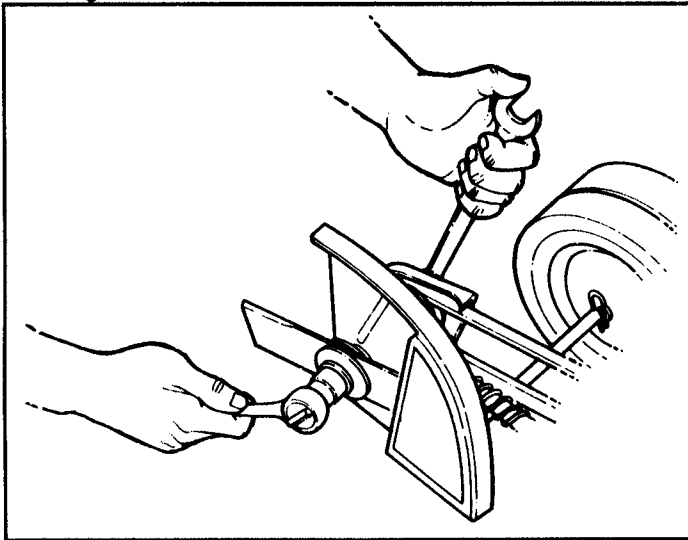

FIGURE 5
1. Remove blade by holding the spindle with a 3/4" boxed end wrench while removing the blade retaining nut with a 3/4" socket wrench. See Figure 5.